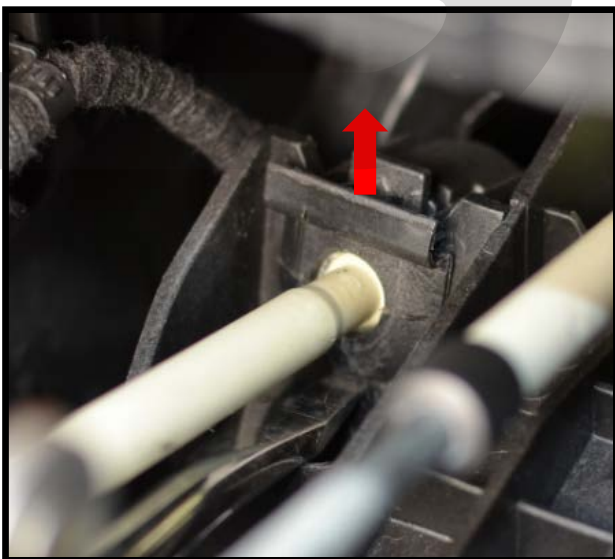

Figure 2b
b) Remove the shifter cables from the shifter housing. Use a large flat head screwdriver to pop the cable clip loose. Place the flathead end under the clip, then pry up while twisting the screwdriver. (Figure 2b & 2c)